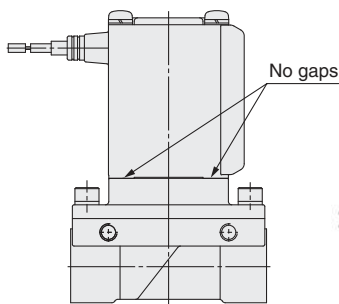
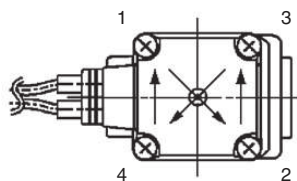

Fig.1
Fig.2
- 3) Push the coil assembly against the body and tighten the screws two or more rounds diagonally (Fig. 2) in the status that there are no gaps between the coil assembly and body (Fig. 1).
\* After tightening the screws, make sure that there are no gaps between the coil and body (Fig. 1).